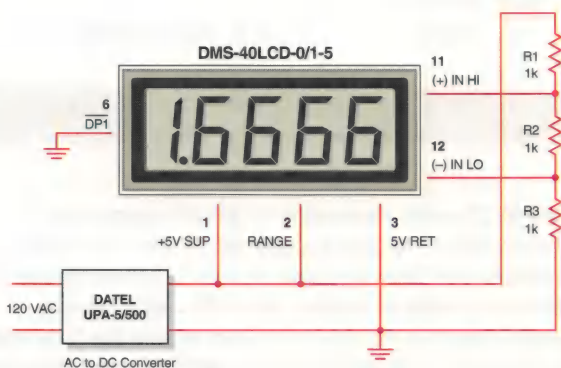

Figure 3. Differential Input Configuration
- 2. Differential Input Configurations:** Differential measurements can be made with either 5V-powered or 9V-powered meters. Figure 3, though not a practical real-world application, uses a voltage divider to demonstrate the concept of a differential input signal. Be careful not to exceed the  $\pm 2V$  common mode voltage limitation for 5V-powered meters.